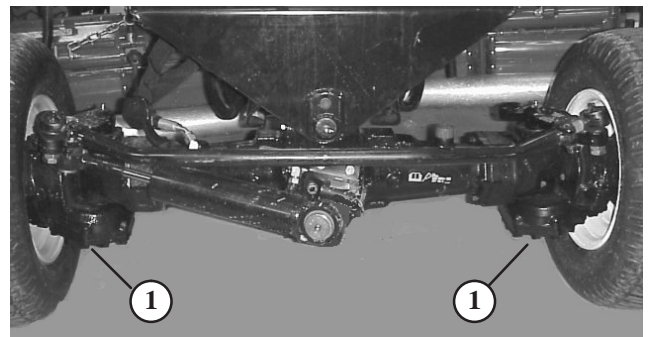

Figure 68
- Clean area around the drain plugs (Fig. 68).